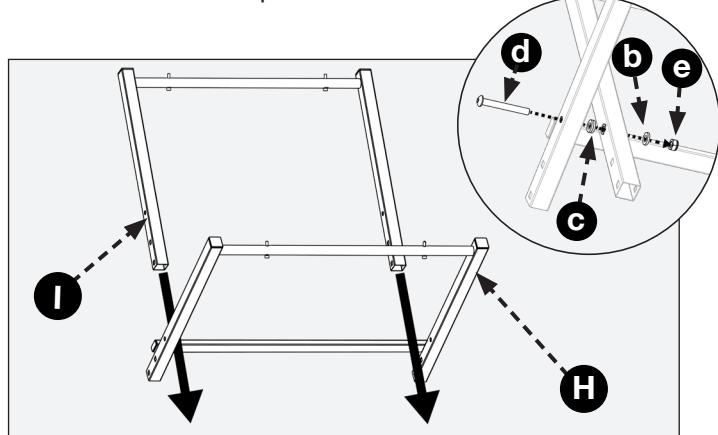

FIGURE 1
Assemble stand part 2 (I) through stand part 1 (H) that has cross support as shown in (Fig. 1). Secure stand assembly with M8 x 65mm hex socket head screw (d), M8 spacer (c), M8 washer (b), and M8 lock nut (e). (Fig. 1)